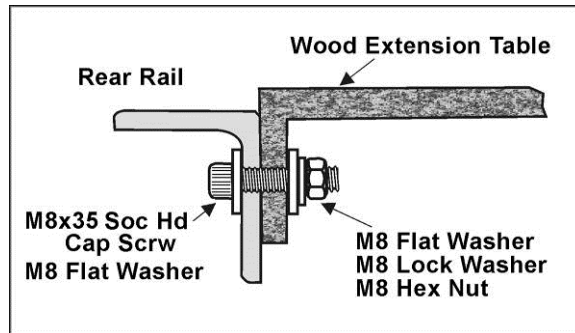

Figure 10
8. Install M8 x 35 socket head cap screws and flat washers in the rear rail, and secure with flat washer, lock washer and hex nut behind the lip of the wood table (Figure 10). Finger tighten only.